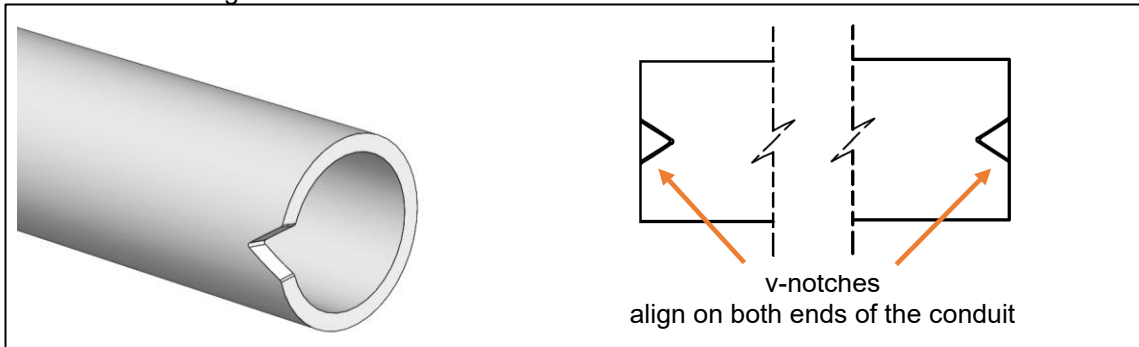

Figure 2: Image and drawing of v-notch marks
- Identify the proximal (arterial) and distal (venous) ends: the proximal (arterial) end is shorter and both ends feature v-notch orientation marks (see **Figure 2**).